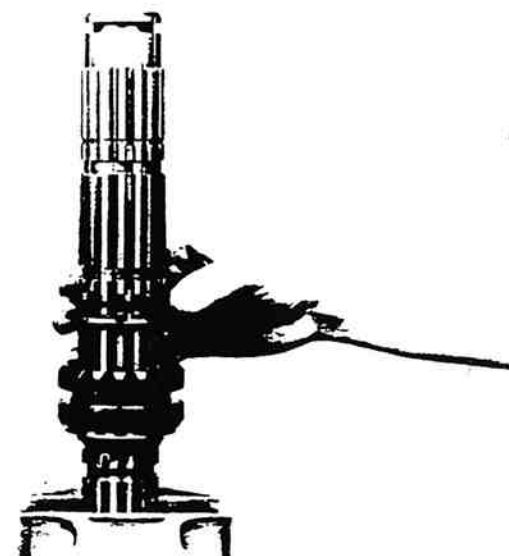

Figure 13-119. Spacer Against 2nd Speed Washer.
6. Install spacer against 2nd speed washer (figure 13-119).